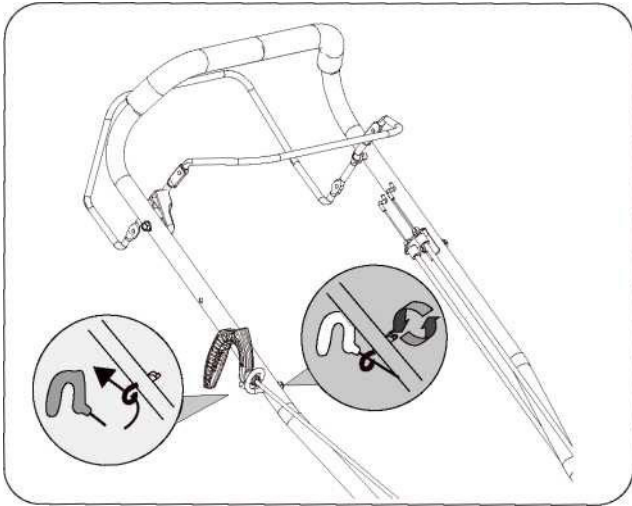

Figure 3-3
3. Feed the rope through the eye bolt. See Figure 3-3.